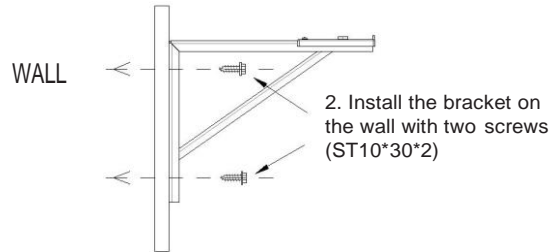

Figure 9B
2. Install the tripod on the wall with two screws. (Figure 9B)